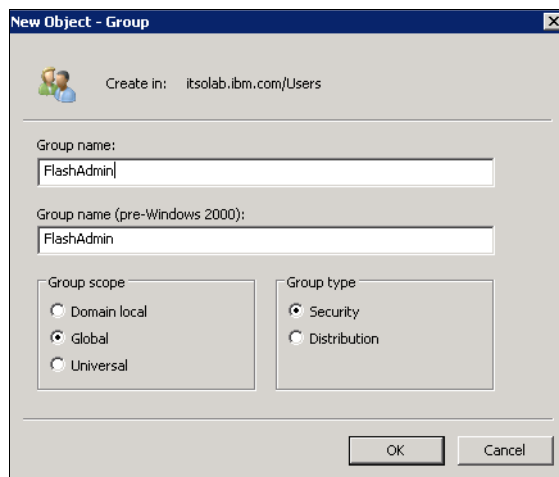

Figure 9-37 Active Directory to create a FlashAdmin group
In this example (Figure 9-37 on page 430), a group named *FlashAdmin* is created, which is used to manage the IBM FlashSystem V9000 storage device.
2. Click the **Create a new group in the current container** icon. The New Object - Group window opens (Figure 9-37).